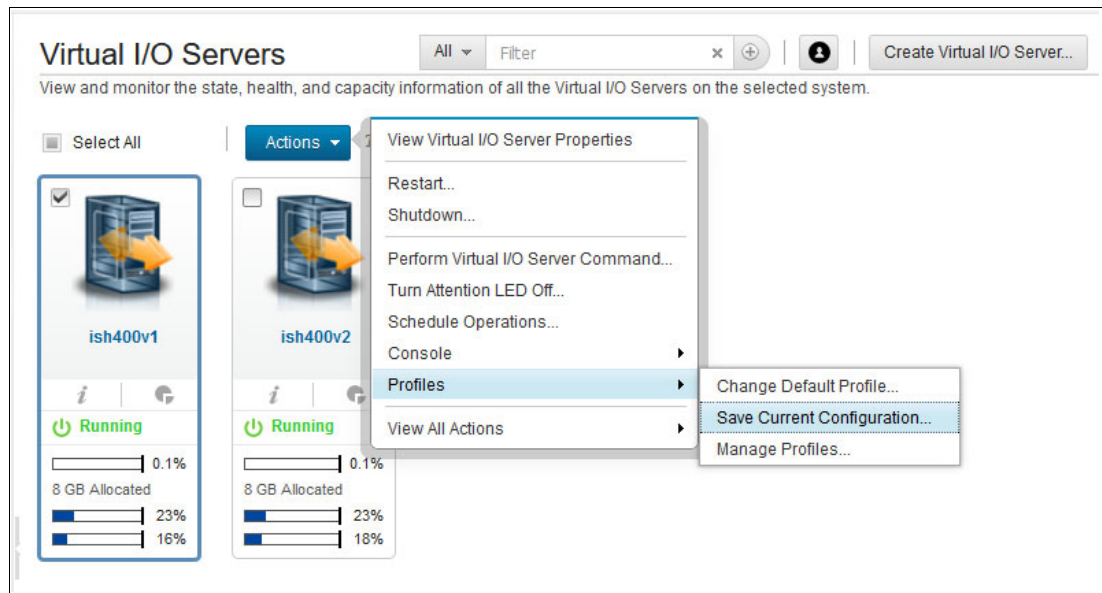

Figure 2-9 Save Current Configuration menu on the HMC
- f. Update the partition profile of the VIOS partition by selecting **Profiles** → **Save Current Configuration**, as shown in Figure 2-9 to save the changes.